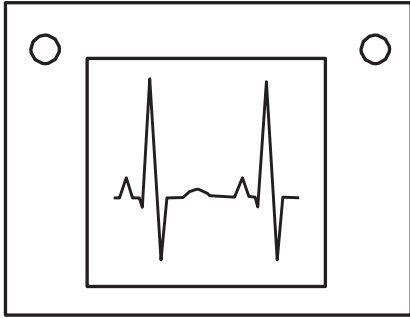

Figure P7.31 Pulse oximeter.
- 7-31.** A pulse oximeter shown in Fig. P7.31 measures blood saturation (measured in mol) by comparing the concentrations of oxygenated hemoglobin (HbO_2) and deoxygenated hemoglobin (Hb), represented by C_1 and C_2 , respectively. These values can be calculated by measuring the absorption coefficient of skin at two different light wavelengths. If the extinction coefficients are given as $\epsilon_{Hb}(\lambda_1) = 3327$, $\epsilon_{HbO_2}(\lambda_1) = 320$, $\epsilon_{Hb}(\lambda_2) = 762$, and $\epsilon_{HbO_2}(\lambda_2) = 816$, all measured in $\text{cm}^{-1}/\text{mol}$, then the concentrations satisfy the following system of equations: